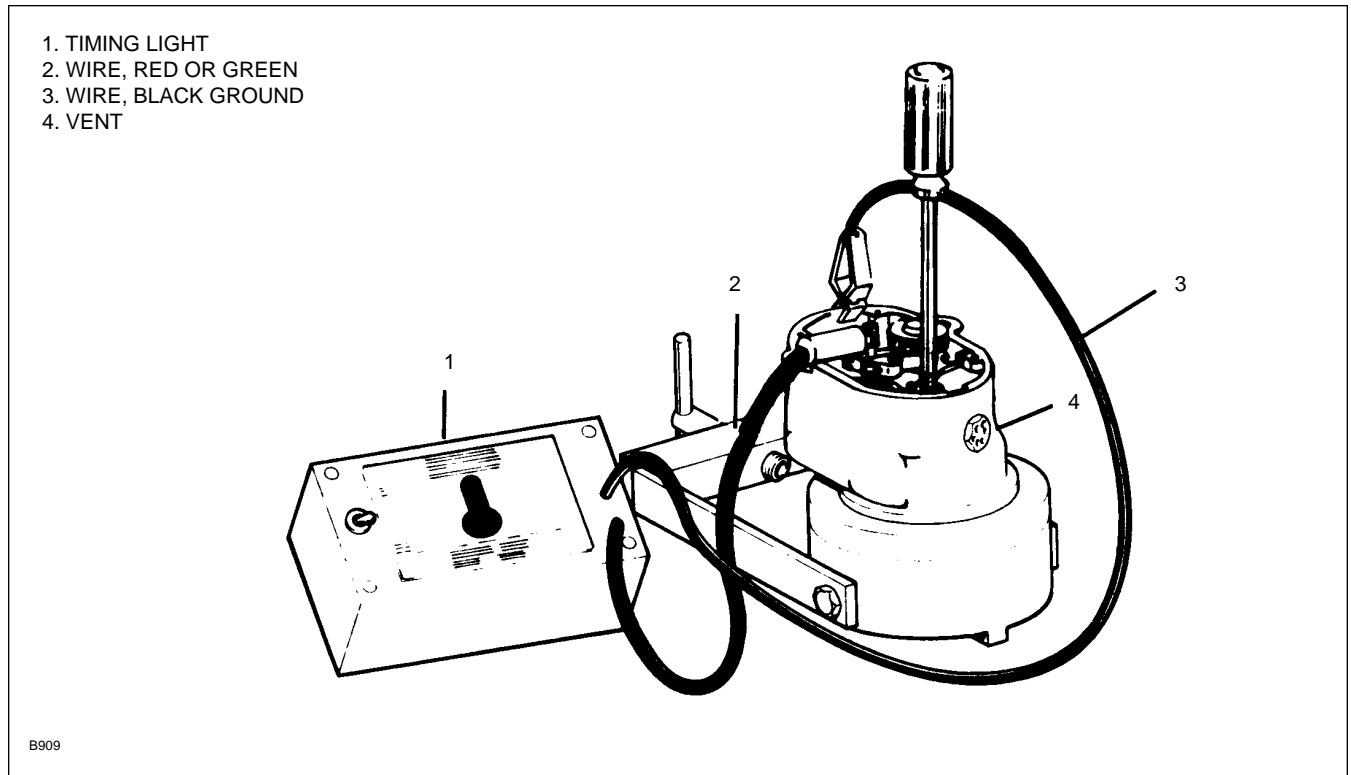

Figure 8-13. Timing Magneto Internally and Assembly
q. Attach either the red or green wire of the timing light to the bronze point terminal and the black wire to the frame of the magneto. (Refer to Figure 8-13.) With a screwdriver, adjust the points so the timing light indicates point openings and the points open. Secure the points by tightening the screws. This will provide a point gap of .008 - .010 in. Attach the coil wire to the vertical bronze male terminal of the point assembly.